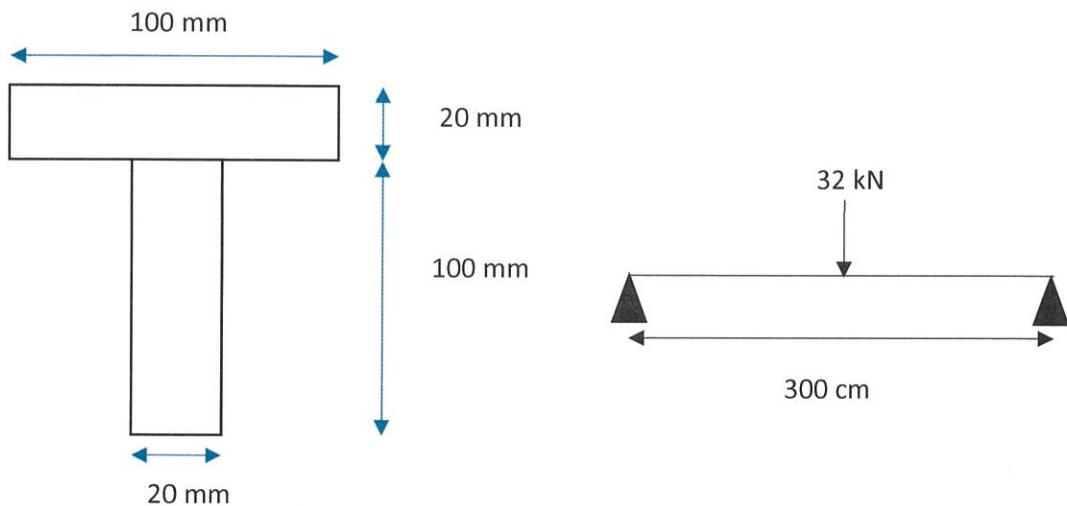

Figure 3(b) / Rajah 3(b)
b) Figure 3(b) shows the cross-sectional of the simply supported beam.
Based on Figure 3(b), calculate: